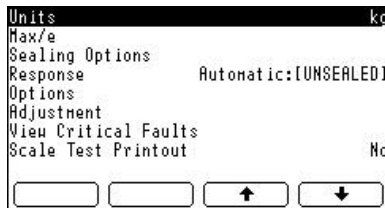

Figure 13 The W&M page
- 3 If required, enter the Weighing configuration password (322225) and press . The Weighing Configuration page is displayed (see Figure 13).